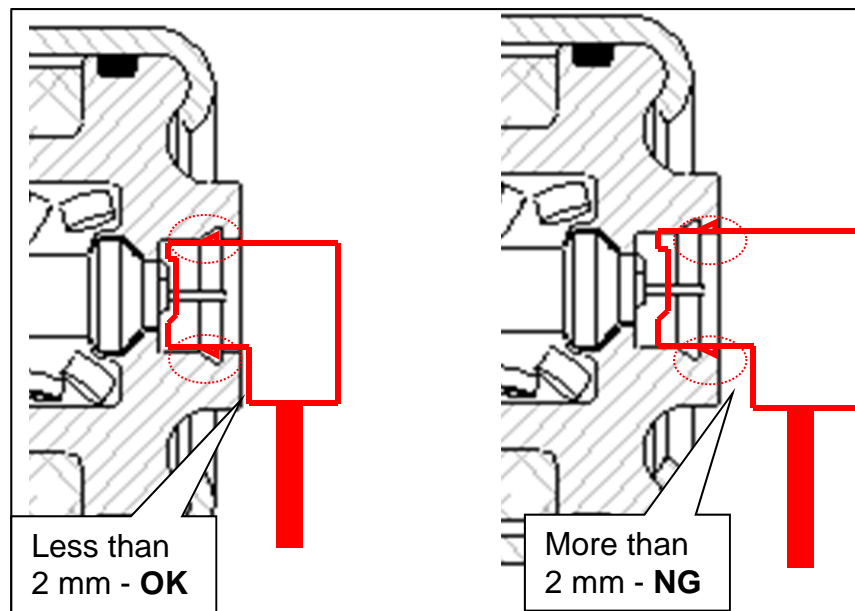

Figure 46
- Make sure harness connector is fully engaged / seated (Figure 46).